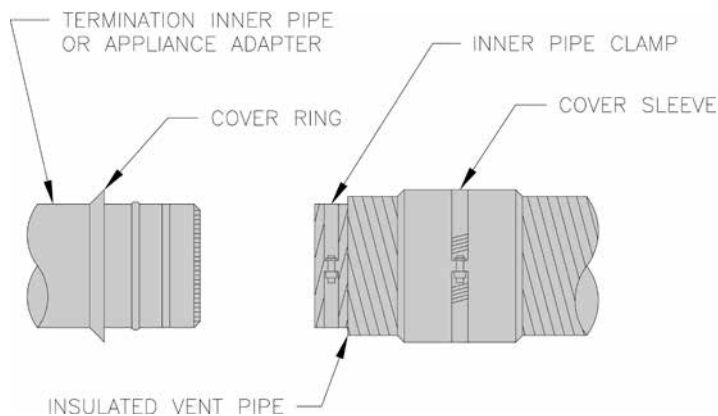

Figure 22: Vent Pipe Assembly to Vent Termination Inner Pipe and Appliance Adapter
3. Pull outer vent pipe back 1" to 2" from end of inner vent pipe and remove insulation; firstly, at vent pipe end to be connected to the vent termination; secondly, at vent pipe end to be connected to the appliance adapter. See Figure 22.
4. Install supplied Cover Sleeve Assembly onto each end of outer vent pipe, and, move the assembly a few inches back from the end; firstly, at vent pipe side to be connected to the vent termination; secondly, at vent pipe side to be connected to the appliance (boiler outlet collar) adapter. See Figure 22.
5. Slide supplied Cover Rings; firstly, over stop bead on vent termination inner pipe; secondly, over stop bead on appliance adapter. See Figure 22.